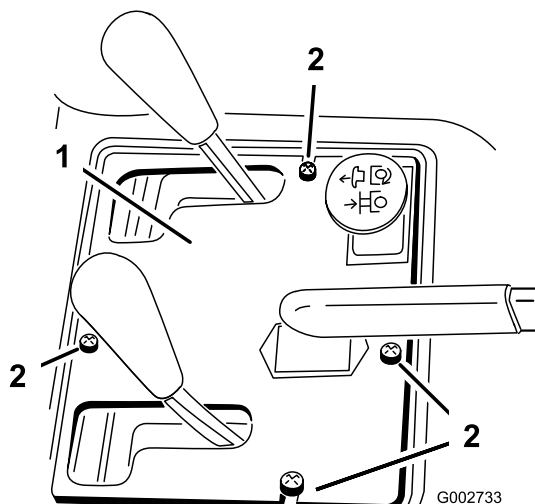

Figure 36
2. Remove the 4 screws securing the control panel to the frame (Figure 36).